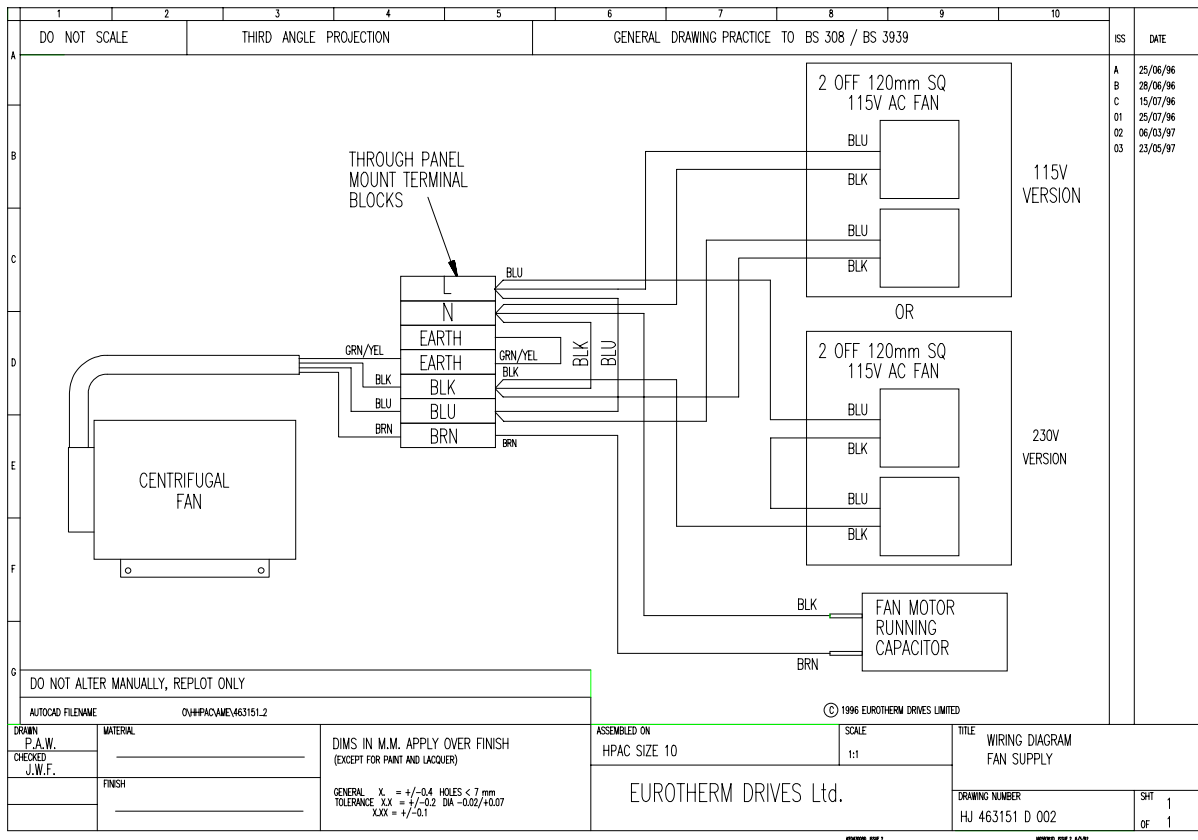

Figure 8-7 Wiring Diagram Fan Supply (Type 10)
4. Re-connect the fan wiring loom at the terminal block, ensuring that electrical safety isolation is preserved, refer to wiring diagram HJ 463151 D 001, Figure 8-7, page 8-10.
10. Reconnect the main cooling fan's supply wiring loom at the terminal block on the bottom of the Inverter, refer to wiring diagram HJ 463151 D 001, Figure 8-7, page 8-10.